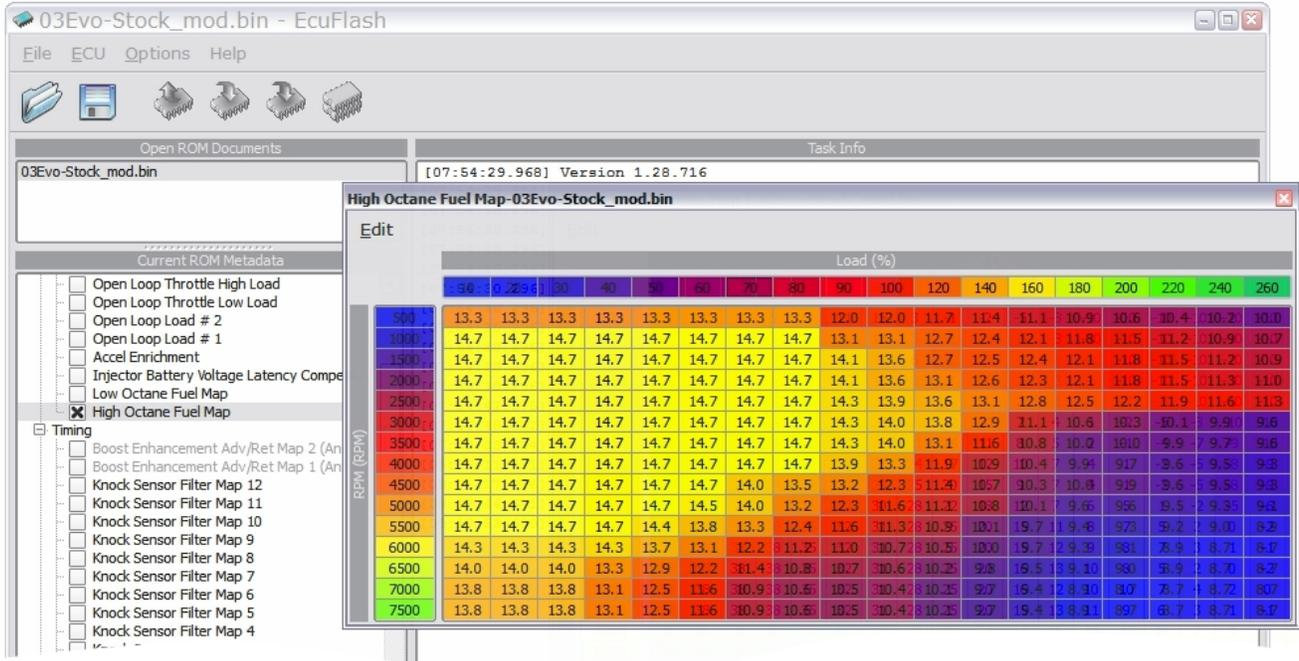

Figure 25, stock 2003 Evolution VIII ECU High Octane Fuel Map
Follow the instructions in steps (2), (3), (4), and (5), with Figures 25, 26, and 27 as a guide. Just as with the timing maps, the column headers need to be redefined (step 2, step 3), then the values in the table need to be moved back under their respective column headers (step 4), and finally the values in the two new high load columns have to be rescaled (step 5).
Figures 25 and 26 illustrate what the High and Low Octane Fuel Maps should look like before and after the Load (%) values have been changed as part of steps (2) and (3).